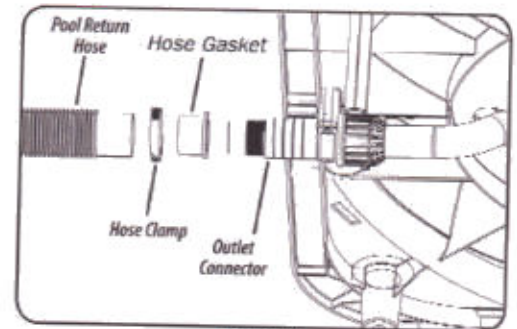

Figure 3
- 2) Using a hose clamp, secure the loose end of your existing pool return hose to the outlet connector (See Figure 3).